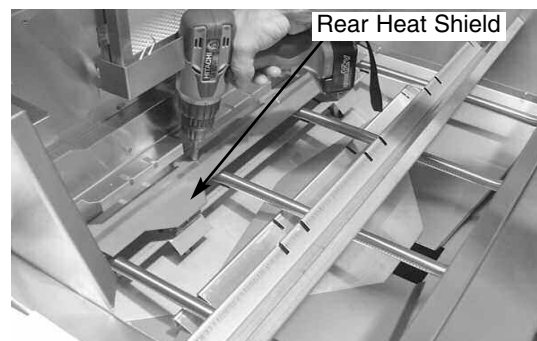

Fig 17
21. Reattach the rear heat shield before attaching the front heat shield to be sure the burners remain over the valves. (See Fig. 17)